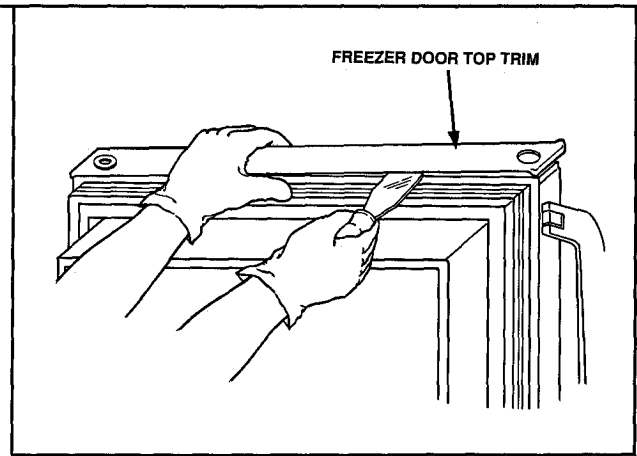

Figure 61
- a. Carefully remove only topdoor trim with a putty knife. Do not remove peel-off tape from double back tape on trim. See Figure 61.